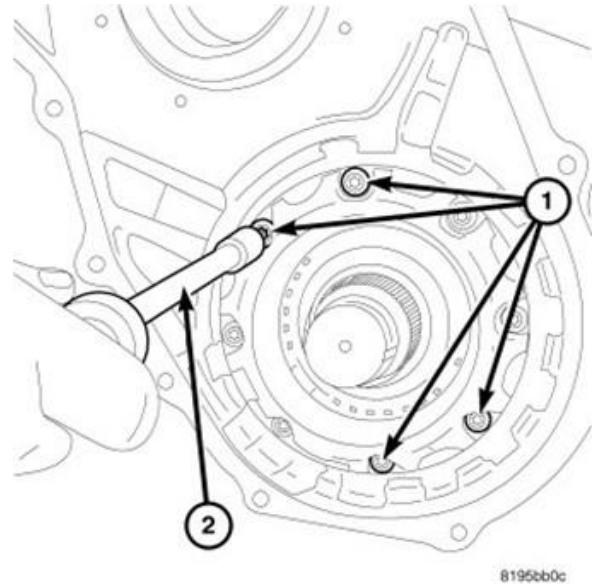

Figure 26 – Bearing Retainer Bolts
38. Remove 4 bolts (1) from compounder bearing retainer to allow attachment of Puller Adapter 9908 (Figure 26).
NOTE: The compounder bearing retainer bolts may be very tight so it is important to have a good fitting new driver tool (2) for removal of these bolts (1) or the bolts heads may become damaged during removal (Figure 26).